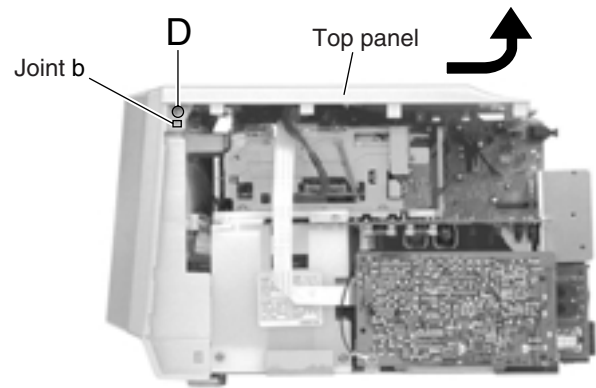

Fig.6
■ Removing the top panel (See Fig.6 and 7)